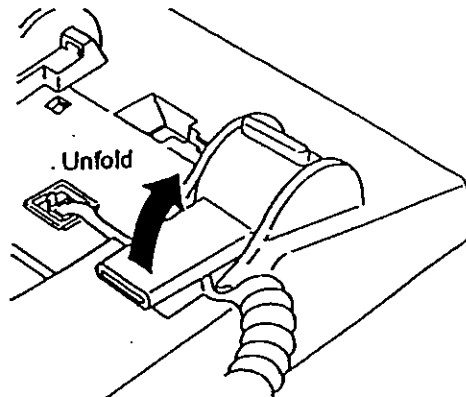

Figure 1-50 Unfolding the Legs of the Tilt Stand
- b. Unfold the legs until they lock. (Refer to Figure 1-50 - Unfolding the Legs of the Tilt Stand.)